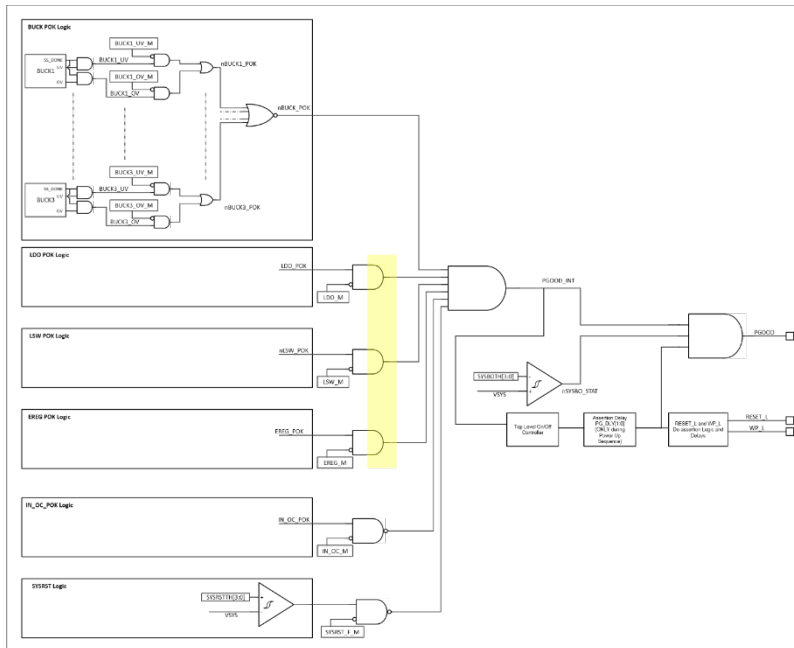

Figure 1. PGOOD logic: Different POK signals, their masks, and the overall PGOOD signal.
- In the GLBL\_INTM register, use the SYSRST\_F\_M bit to mask SYSRST\_F\_I in the GLBL\_INT0 register and to mask the event itself from causing a power-down sequence. See the PGOOD Logic Diagram (Figure 1) for details.
- When the system voltage rises above the rising threshold ( $V_{SYS} > V_{SYSBO(RISING)}$ ), SYSBO de-asserts. This results in the external PGOOD output being allowed to assert (HIGH). Note that PGOOD is also controlled by other events. See the PGOOD Logic Diagram (Figure 1), for more details.
- PGOOD can de-assert at any time if a regulator's undervoltage (UV), overvoltage(OV), or overcurrent (OC) (overcurrent only for Bucks) status signals assert and they are unmasked. Refer to the PGOOD Logic Diagram (Figure 1) below for complete details.